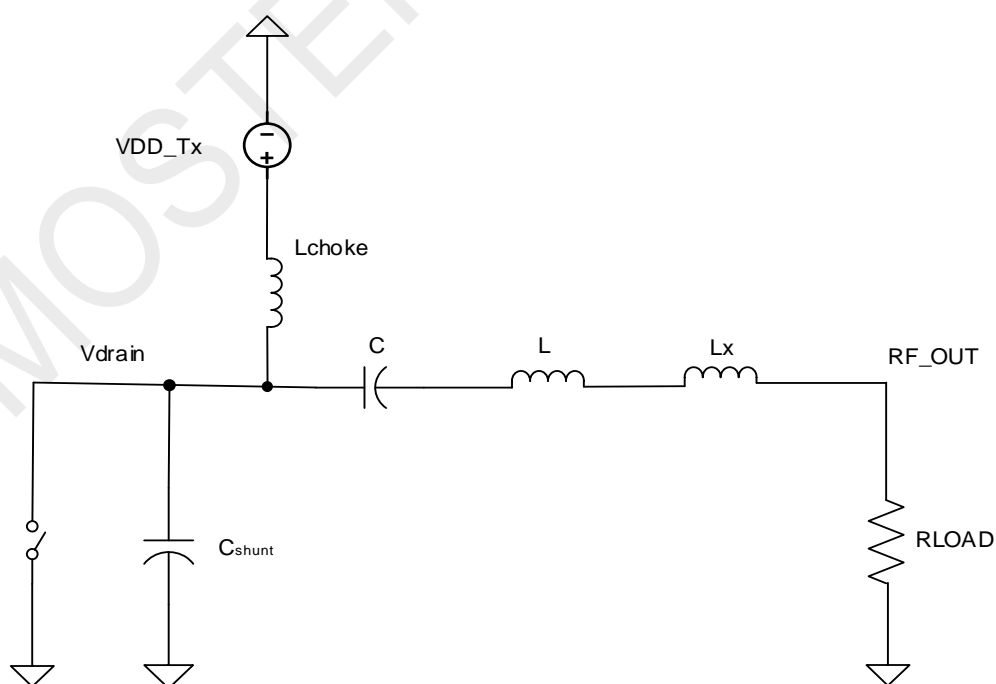

Figure 1. Basic Structure PA Circuit Topology
The basic structure of Class-E PA is shown in figure 1.  $L_0$ - $C_0$  resonates in series at the working carrier frequency, and  $C_{shunt}$  stores energy during switch off, all of which forms an attenuated load network with inductors  $L_x$  and load resistors  $R_{load}$ . In the switching transient process, the energy stored in  $C_{shunt}$  while  $C_0$ ,  $L_0$  supplies energy for the load resistance  $R_{load}$ , which is the damping resistance in load network. Its value has a great influence on the drain voltage waveform of the switch.
- (1) Select a suitable Choke inductor
- (2) Calculate the optimal load impedance  $Z_{Load}$  according to the output power
- (3) Select the appropriate series resonant capacitor  $C_0$  (as shown in figure1).
- (4) Calculate  $L_0$  according to the selected  $C_0$
- (5) Calculate the L-shaped matching component values  $L_x$  and  $C_x$  according to the optimal load resistance  $Z_{Load}$ ;
- (6) Design a T-type low-pass filter